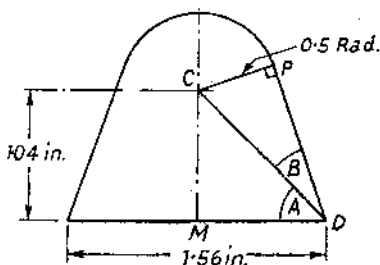

Fig. 75
- (6) Determine by calculation: (a) the angle  $A$ ; (b) the length  $CD$ ; (c) the angle  $B$  of the template shown in fig. 75.